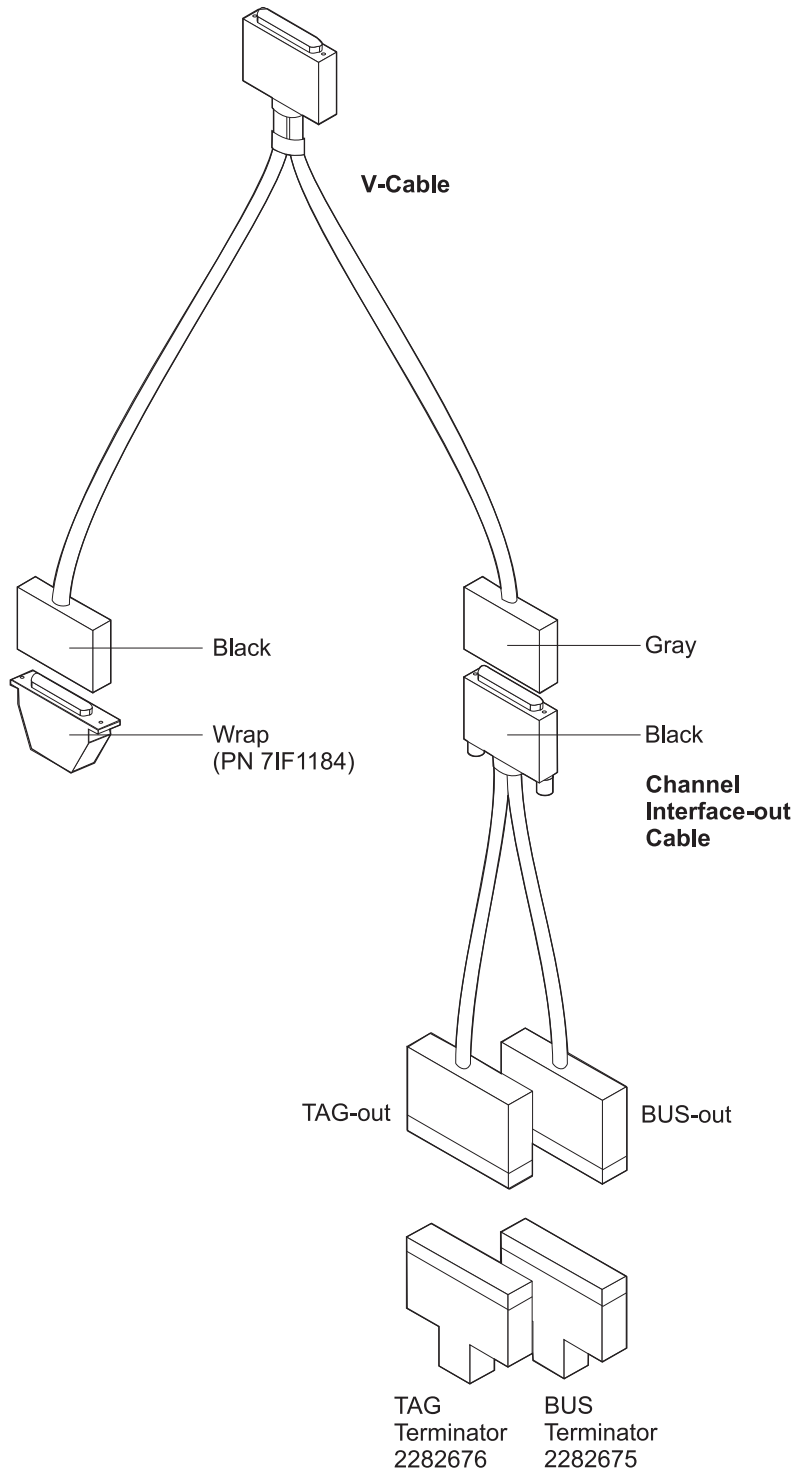

Figure 1-10. Channel Interface-out Wrap Test Connections
5. V-cable and Channel Interface-out, see Figure 1-10 on page 1-28